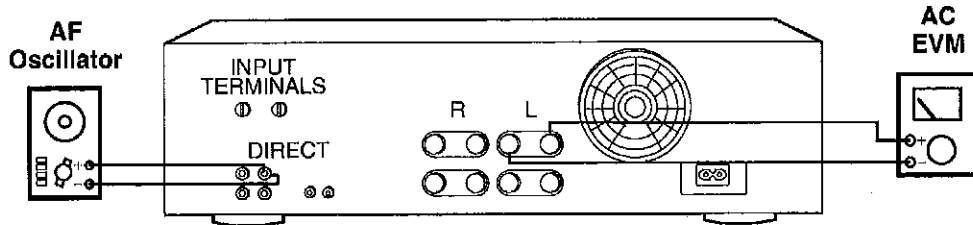

Fig.1
1. Test equipment connection is shown in Fig.1